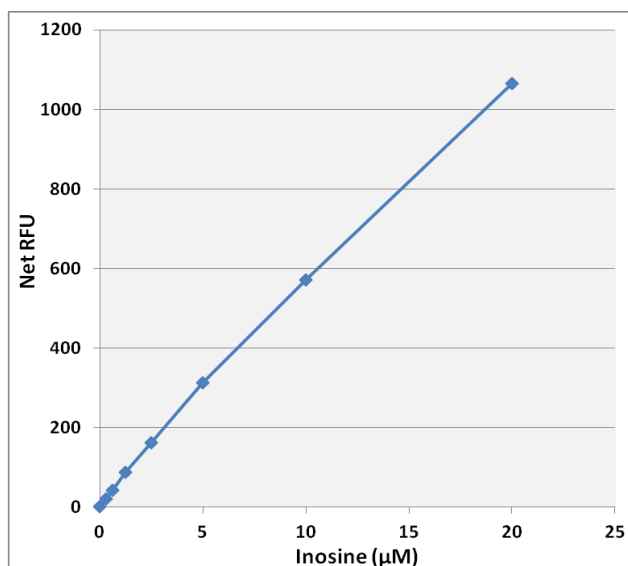

Figure 2: Inosine Standard Curve.
3. Graph the standard curve (see Figure 2).